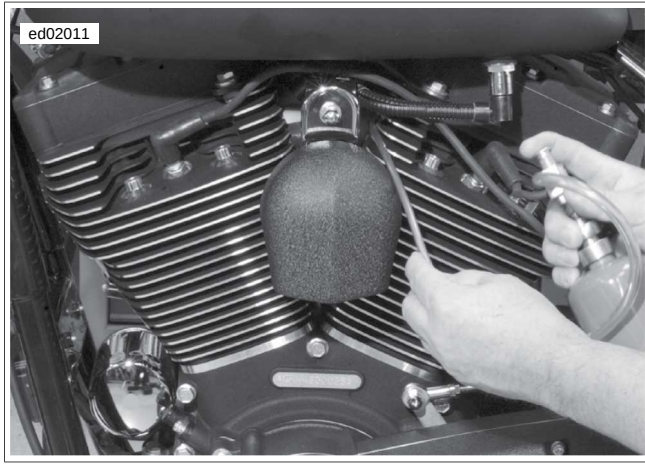

Figure 4-14. Checking for Leaks
4. See Figure 4-14. Aim nozzle toward possible sources of leak such as Fuel Injectors and intake tract.